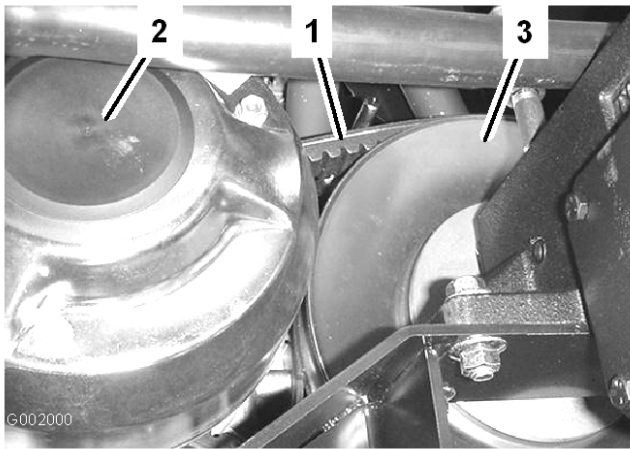

Figure 60
1. Rotate and route the belt over the secondary clutch (Figure 60).